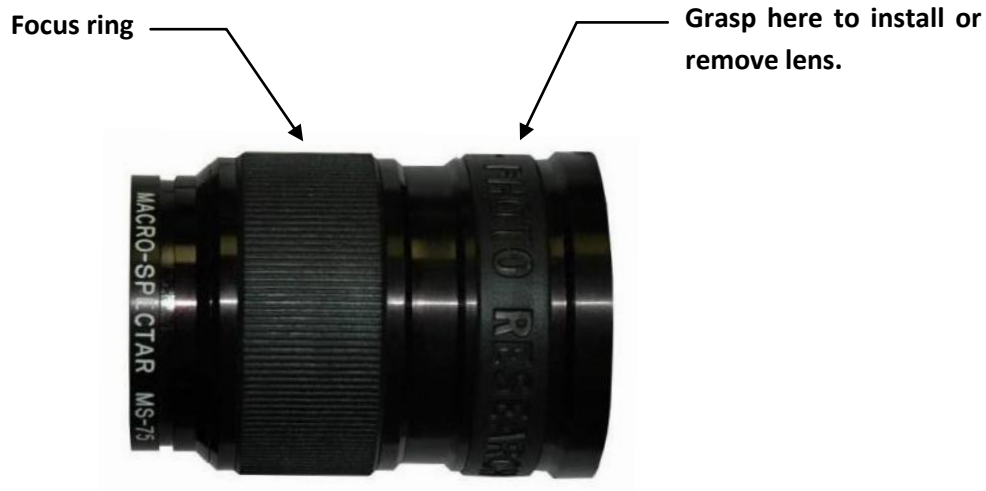

Figure 16 - MS-75 objective lens.
The standard objective lens is installed by aligning the thread from the OBJECTIVE lens with the instrument's lens mount and rotating clockwise while grasping the rubber ring toward the rear of the lens (see **Figure 16**). The thread should offer minimum resistance during installation.
1. Grasping the rear rubber ring (see **Figure 16**) turn the lens counter-clock-wise until the lens separates from the lens mount.
1. Grasping the rear rubber ring (see **Figure 16**) turn the lens clock-wise until the lens seats on the lens mount.